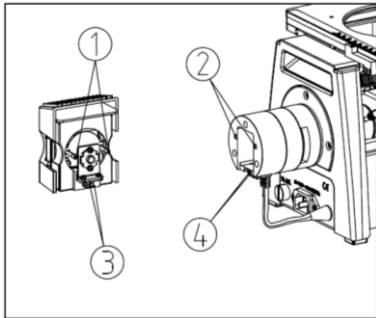

Fig.2
Make sure the pin ① and ③ facing to the hole ② and ④, then lock. (Fig. 2)